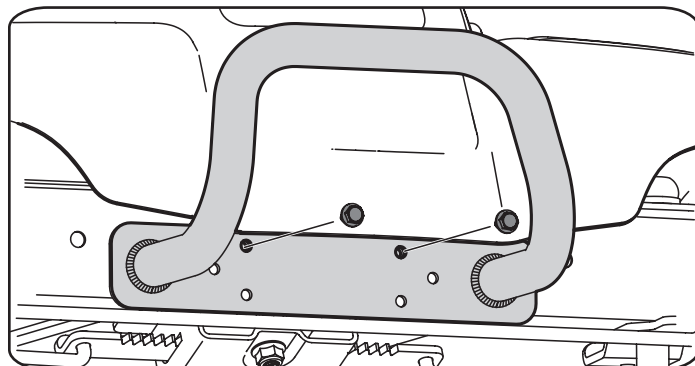

Figure 13
1. Remove the two screws as shown in Figure 13.
2. Position the bumper over the mounting holes and secure using the hardware removed in Step 1, as shown in Figure 13.